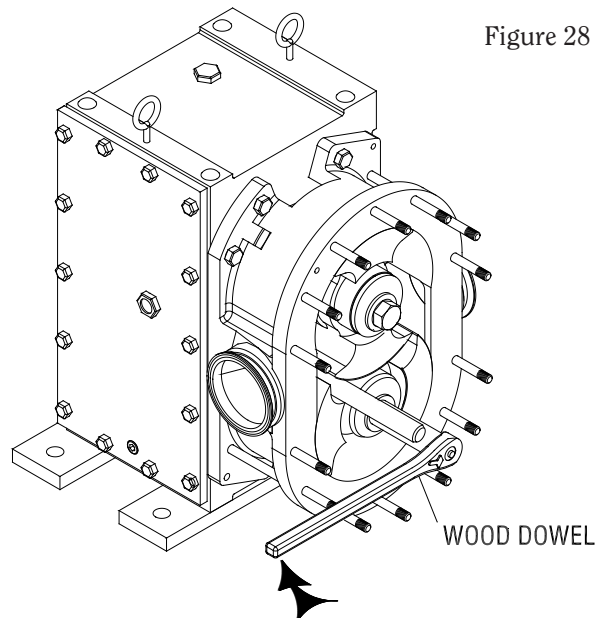

Figure 28
- k) Now place the wooden dowel between the rotors as shown in Figure 28.